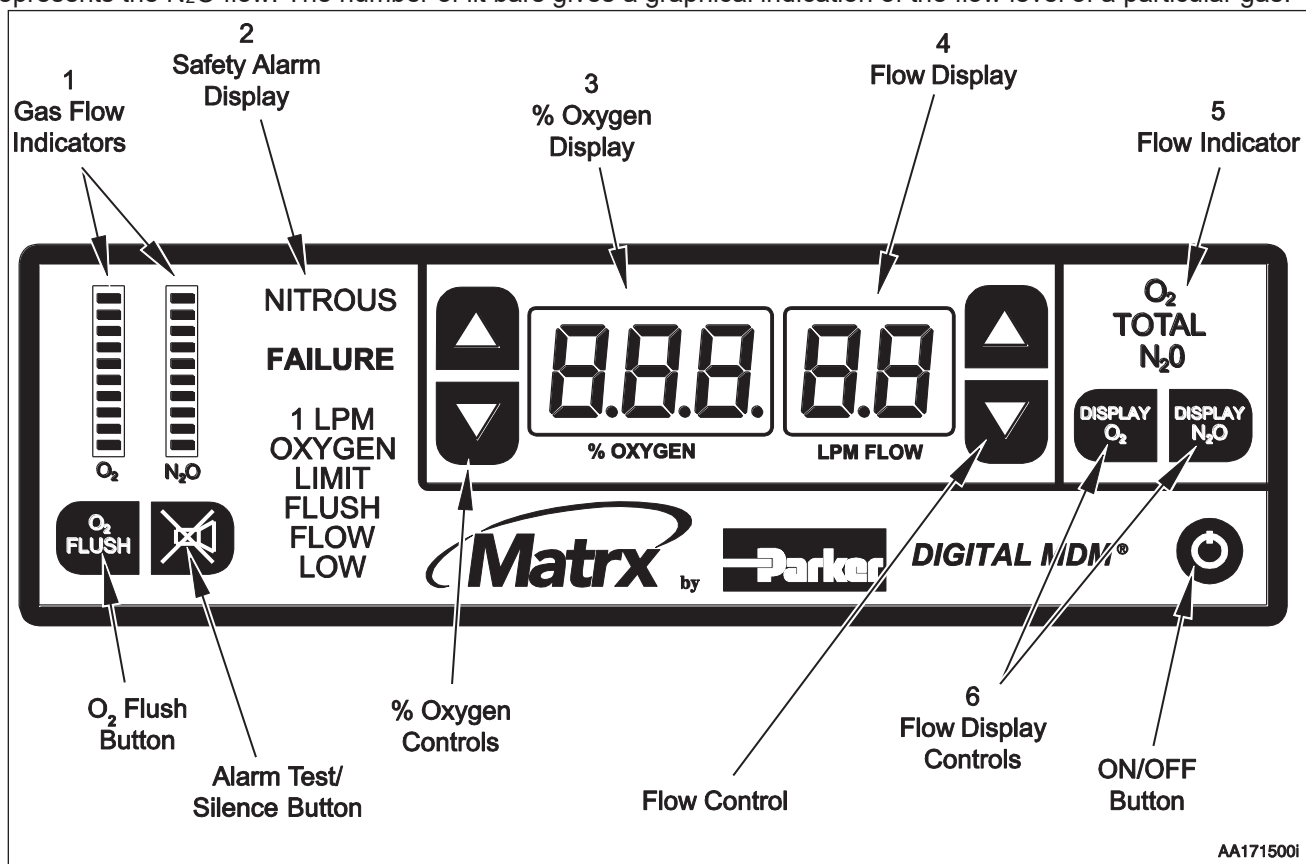

Figure 1. Matrix DIGITAL MDM® Mixer Front Panel (figure shows all LEDs illuminated)
Description of Unit: The DIGITAL MDM® mixer is shown in Figure 1. The device permits the operator to adjust the percent of oxygen through a range of 100% to 30% (and thereby control the ratio of oxygen to nitrous oxide). The operator can also control the total volume of mixed gas up to 9.9 liters per minute.
Displays and Indicators: In the following, the location numbers refer to Figure 1.
There are four alarm conditions on the DIGITAL MDM® mixer. They appear in the safety alarm display (see Figure 1, item 2) only when conditions warrant. Otherwise, they are not visible. The alarm conditions are:
Press the ON/OFF key, as shown in Figure 1. After the device goes through an initialization routine, the % OXYGEN and LPM FLOW displays should indicate 100% and 5 LPM.
Press the alarm test / silence key, as shown in Figure 1, and observe that all the alarm readouts illuminate. The % OXYGEN and LPM FLOW displays should show 8.8.8. and 8.8 respectively. The alarm readouts should illuminate with the numerical displays. 10 bars on each gas should illuminate. The audible alarm should also sound.
Set the % OXYGEN display to 100%. Press the [▼] flow key and hold, as shown in Figure 1. The flow rate should decrease to 1.0 LPM. An audible alarm sounds at the lower limit while the key is held. Press the [▲] flow key and hold. The flow rate should increase to 9.9 LPM. An audible alarm will sound at the upper limit as long as the key is held.